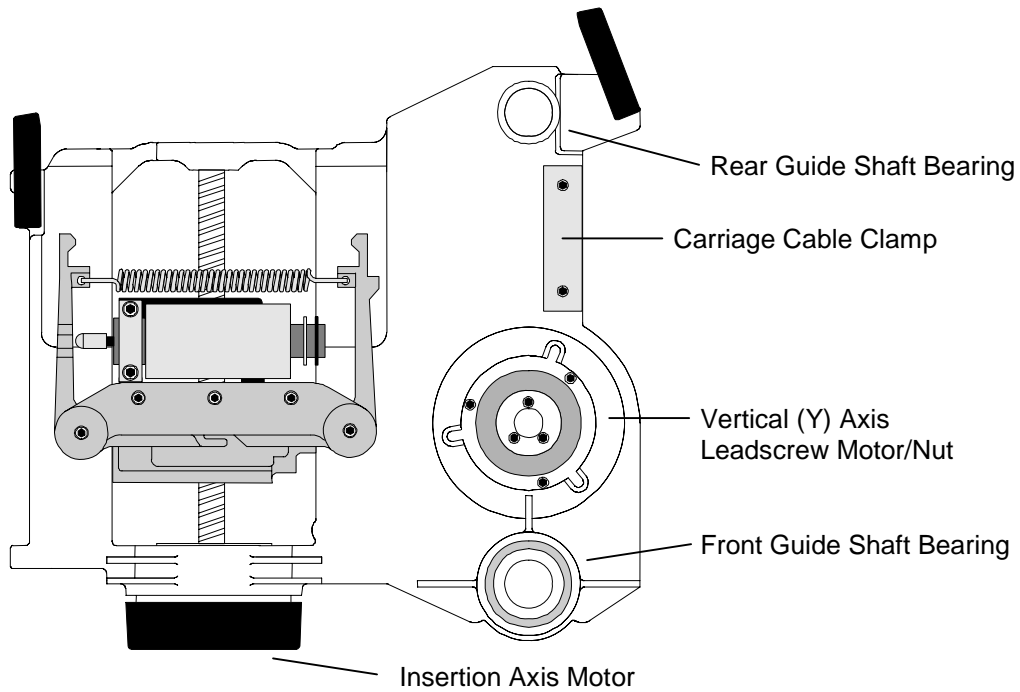
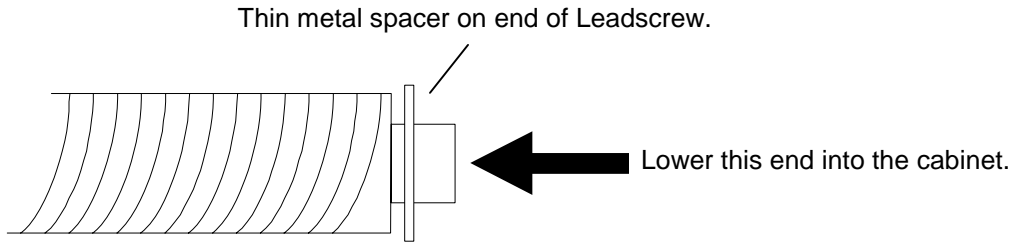

Figure 7-11 The TLS-412180/360 Carriage Assembly (P/N 500650-01-5)
Figure 7-14 The Carriage Assembly Leadscrew
9. While holding the Carriage Assembly at the top of its vertical range of motion, rotate the Leadscrew counter-clockwise to disengage it from the Vertical (Y) Axis Leadscrew Motor/Nut (Figure 7-11). This may require holding the (Y) Axis nut to prevent it from rotating. Finally lift the Leadscrew out of the top plate and set it in a safe place. Locate the thin metal spacer and place it in a safe location.
8. To install the Leadscrew/Spring Cup subassembly, lift the Carriage Assembly all the way up to the top of the Vertical (Y) Axis range of motion and hold it there.
9. Insert the bottom end of the Leadscrew (Figure 7-14) into its hole in the top plate, then lower the Leadscrew down into the threaded hole in the Vertical (Y) Axis Leadscrew Motor/Nut (Figure 7-11).
10. Make sure that the thin metal spacer is positioned on the end of the Leadscrew. See Figure 7-14.